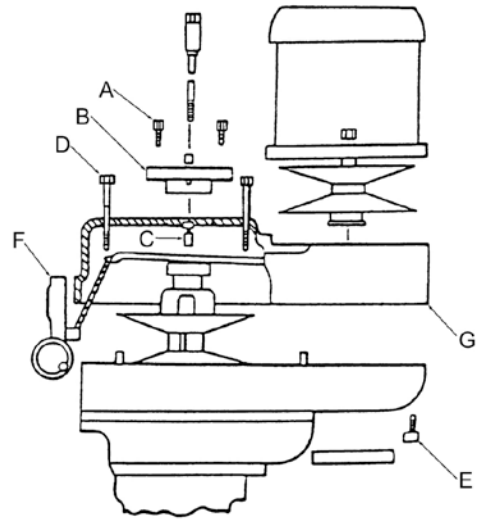

Figure 16
- Remove the three screws (A, Fig. 16). Thread the screws into the adjacent tapped holes and back off the cover (B, Fig. 16).
- Remove the two screws and bushings (C, Fig. 16) from the tilting plate.
- Remove four screws (D, Fig. 16) and one screw (E, Fig. 16).
- Remove four screws from the variable speed housing (F, Fig. 16).
- Remove the top housing (G, Fig. 16) and tap to clear dowels.